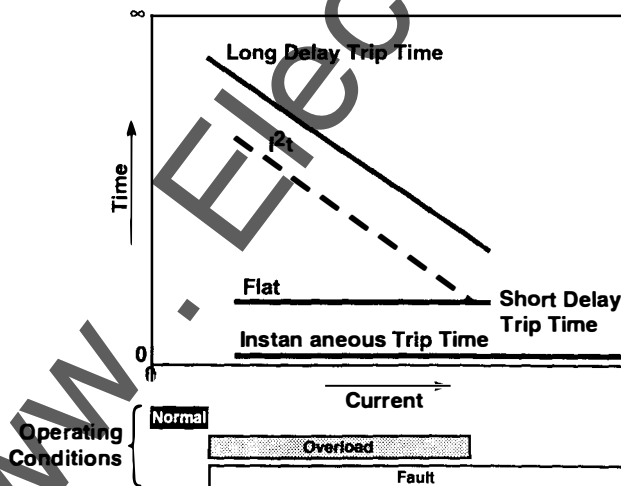

Figure 14-1 Time-Current Curves
All Digitrip RMS Trip Units are designed to meet the protection requirements of a modern power distribution system. As is shown in Figure 14-1, Application Current Levels can be broken into three typical regions:
Digitrip RMS Trip Units, when set up according to the results of a Power System study of the specific distribution system on which they are applied, will respond to various current levels to provide accurate system protection as well as maximum system stability by properly coordinating with upstream and downstream devices. Again referring to Figure 14-1:
- For NORMAL currents, the Trip Unit will accurately monitor the current, regardless of current waveform (due to its true RMS sensing system), assuring that up to full rated current may flow through the system without falsely tripping the breaker. This is shown as the NORMAL OPERATING CONDITION in Figure 14-1.
- For OVERLOAD currents, the Trip Unit will accurately assess the true heating value of the current (again a distinct advantage of its true RMS sensing system), and trip out following the LONG DELAY TRIP TIME curve in Figure 14-1. There are actually eight different LONG DELAY TRIP TIME curves available on the trip unit (selected by the Long Delay Time switch setting), and each curve follows a constant I^2t slope for excellent heating protection and coordination with other devices. The lowest level of OVERLOAD current to bring on this response is selected by the Long Delay Pickup setting on the Trip Unit (see Sections 14-2 through 14-4 for more information, including tolerances).
- For FAULT currents, the Trip Unit will respond according to either the SHORT DELAY TRIP TIME or the INSTANTANEOUS TRIP TIME shown in Figure 14-1, depending on the fault current magnitude and whether the Short Delay function or Instantaneous function or both are present on the Trip Unit.
The SHORT DELAY TRIP TIME curve in Figure 14-1 shows the time to trip response of the Trip Unit to FAULT currents. There are actually eight different SHORT DELAY TRIP TIME curves available on the Trip Unit (selected by the Short Time switch setting), three of which follow a constant I^2t slope for best coordination with downstream devices, five of which are FLAT (fixed trip time). The lowest level of FAULT current to bring on this response is selected by the Short Delay Pickup setting on the trip unit (see Sections 14-2 through 14-4 for more information, including tolerances).
The INSTANTANEOUS TRIP TIME curve in Figure 14-1 shows the time to trip response of the Trip Unit to FAULT currents. This curve is FLAT, providing the most rapid trip time possible (with no intentional delay) to be able to clear the fault as fast as possible and minimize the damage to the system. The lowest level of FAULT current to bring on this response is selected by the Instantaneous Pickup setting on the Trip Unit (see Sections 14-2 through 14-4 for more information, including tolerances).